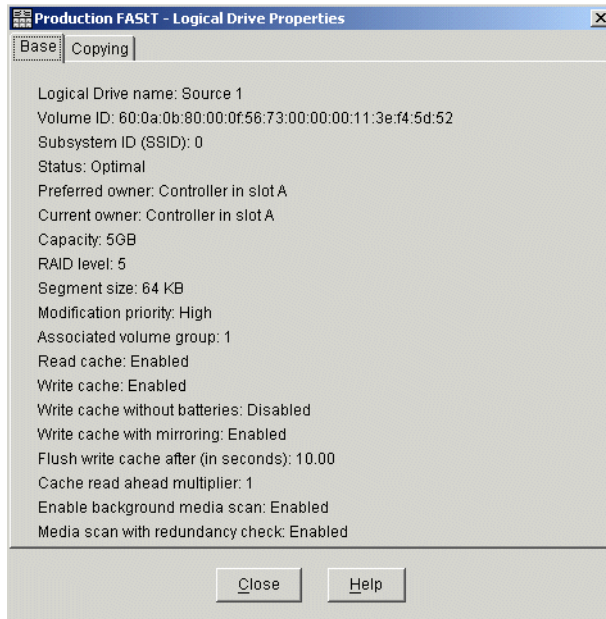

Figure 9-10 Logical Drive Properties - Base tab
- ▶ Select either the **Logical Drive -> Properties** pull-down menu option, or **Properties** from the right-mouse pop-up menu (Figure 9-10 on page 294).